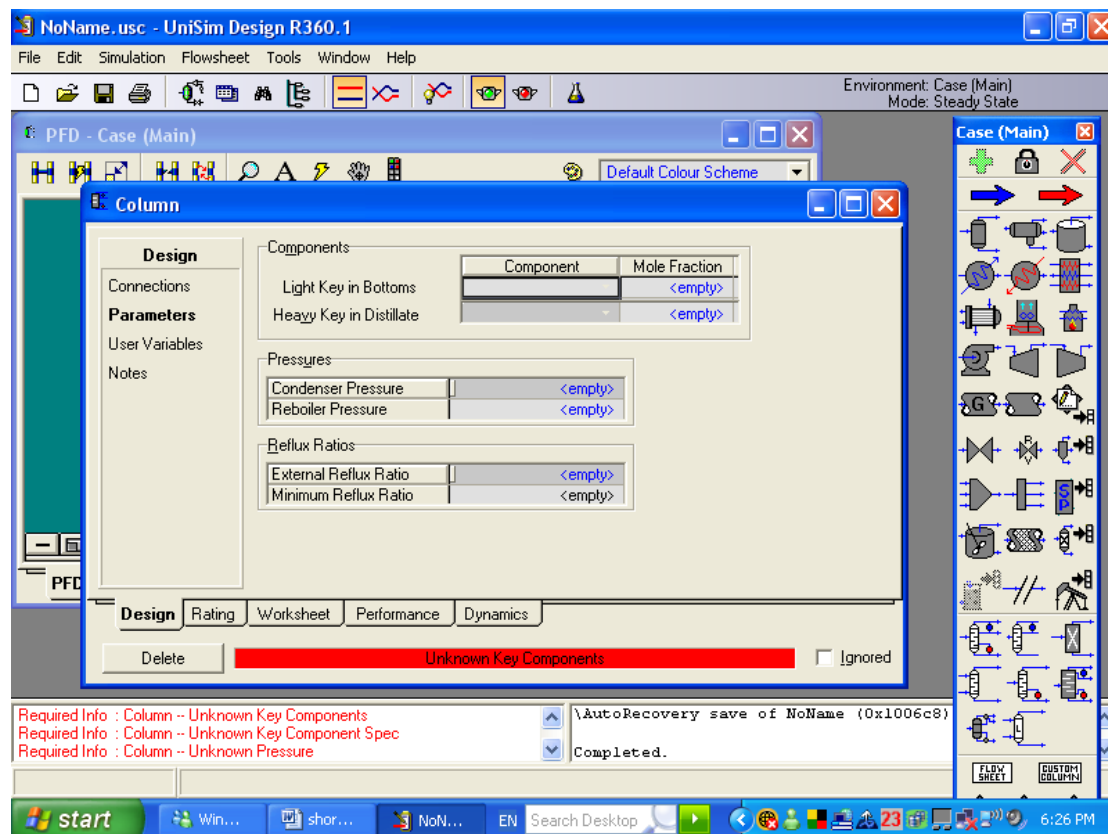

Figure K-18. Snapshot of **Column** window showing **Parameters** menu.
Step 18. Next, select the Parameter menu from Design window. Select light key in Bottoms and its Mole fraction tab, Heavy key in Distillate and its corresponding Mole fraction tab as shown in Figure K-18. Notice the highlighted red comments displayed “**Unknown Key Components**” at the bottom of the window.